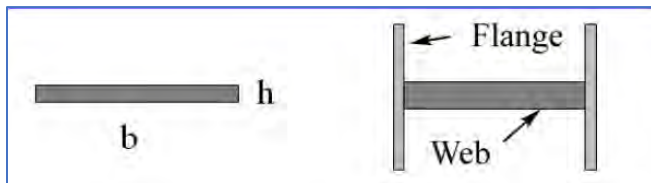

Figure 2: Beam Cross-section
where the height,  $h$ , is the dimension that is parallel to the direction in which the beam will buckle. The base,  $b$ , is the dimension perpendicular to this direction (see Fig. 2), and since  $A=bh$ , Eqn. (2) can be written as